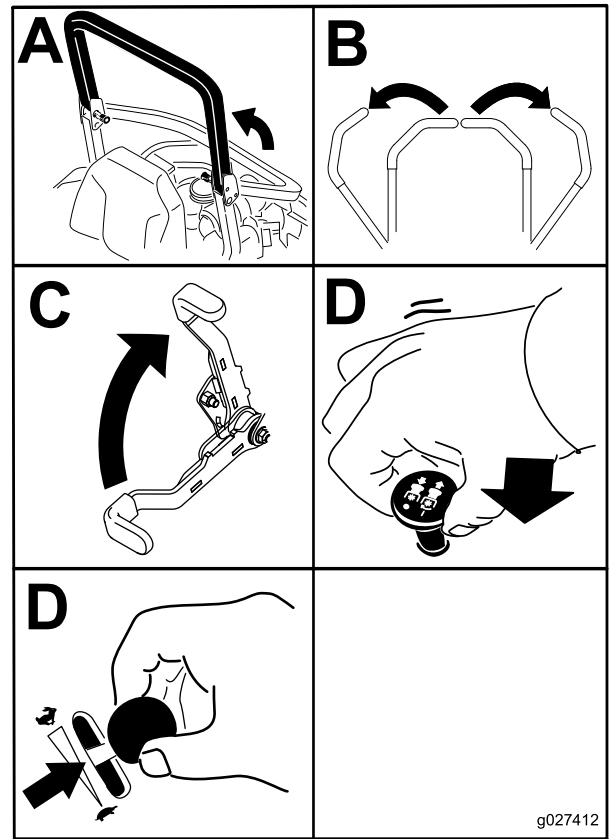

Figure 17
4. Move the blade control switch (PTO) to the off position (Figure 17).